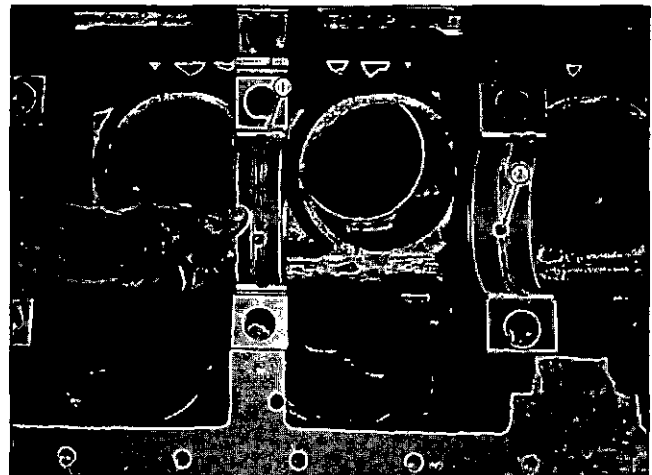

Fig. 14-1-1, V41404. Laying upper main bearing shells
2. Place all upper main bearing shells in position in block; locate in place with tang (1, Fig. 14-1-1).